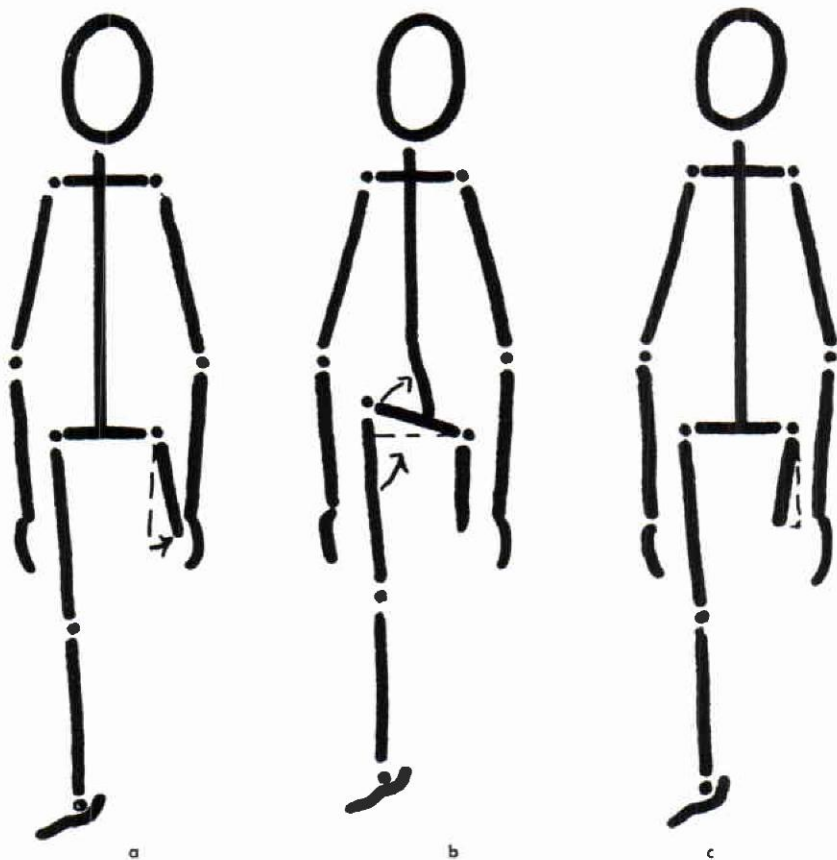

Fig. 2. Abduction contracture of the stump.
10. Hip shrugging. (Fig. 2.) Shrug one hip then the other. (Patient learns location, action and importance of Quadratus Lumborum. To avoid flexing chest laterally and forward and hiking of hip. Especially in gait training.)